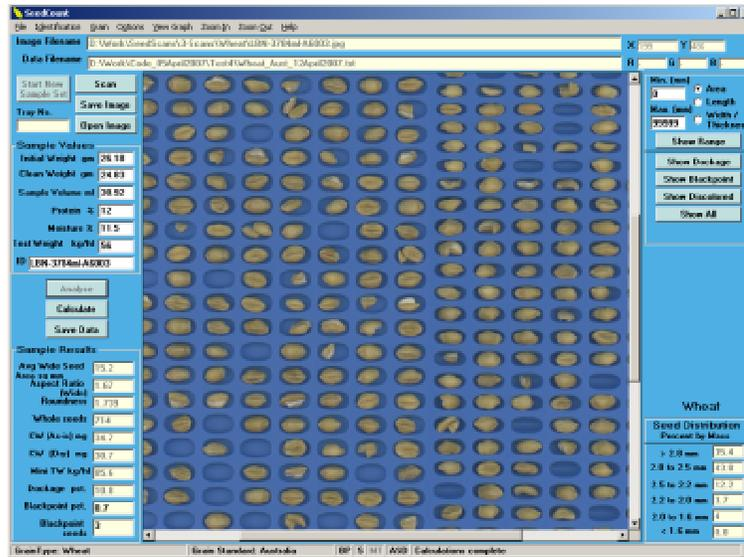

Figure 3: The Main SeedCount Screen
- The Main SeedCount screen (Figure 3) appears.